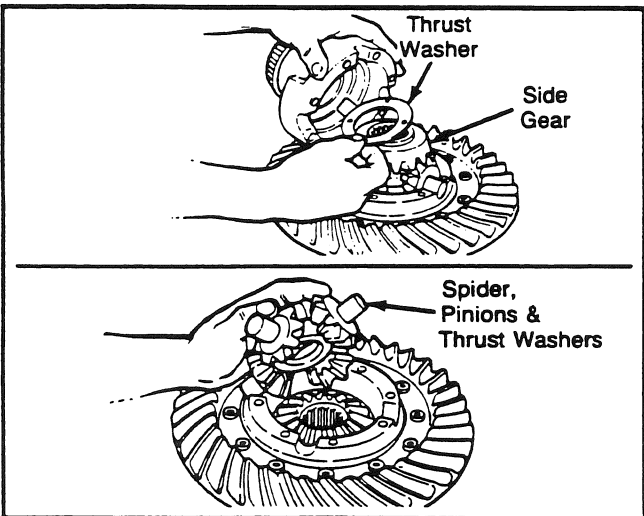

Fig. 15
2. Separate the case halves. If necessary, use a brass, plastic or leather mallet to loosen the parts. Remove the spider, four pinion gears, two side gears and six thrust washers from inside the case halves (see Fig. 15).